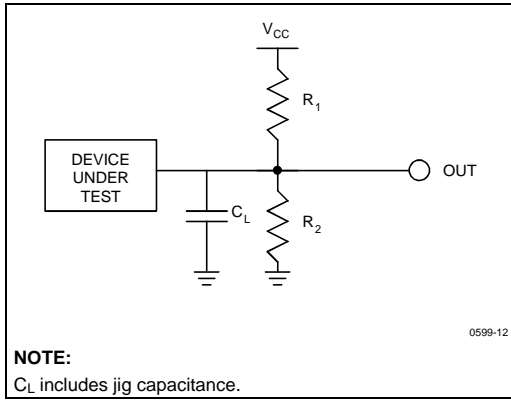

Figure 13. Test Configuration
4. See *Test Configuration* (Figure 13), 5 V High-Speed Test component values.
5. See *Test Configuration* (Figure 13), 5 V Standard Test component values.